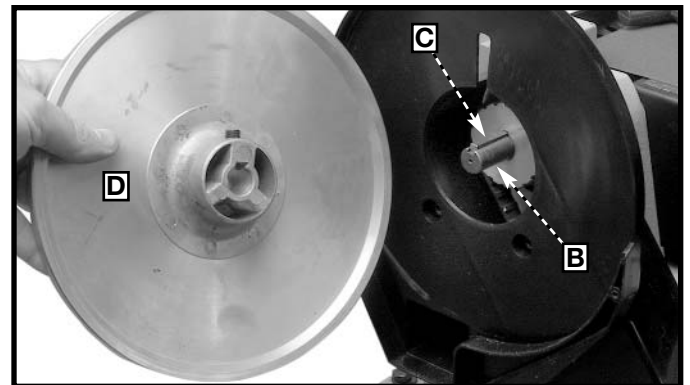
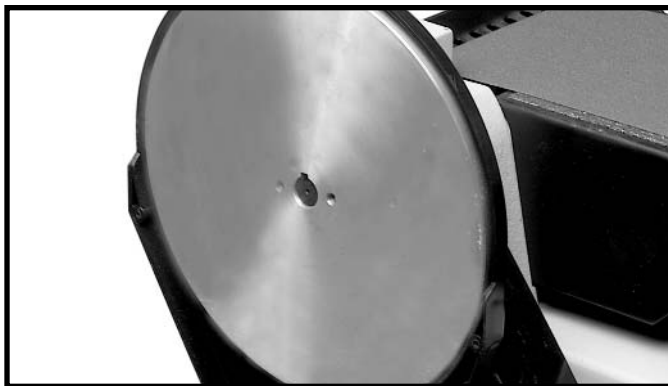

Fig. 9
Fig. 10
1. Place the key (C) Fig. 9 into the keyway of the driveshaft and slide the sanding disc plate (A) Fig. 9 on the drive shaft until it is flush with the end of the drive shaft (Fig. 10).